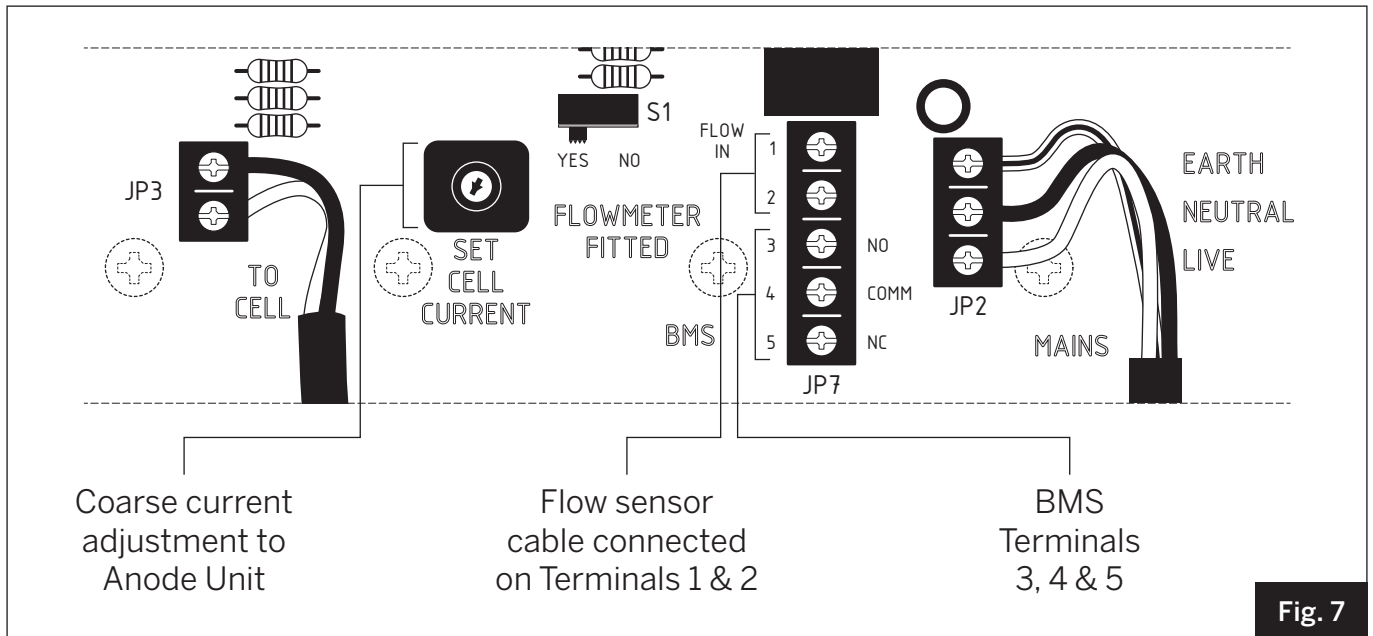

Fig. 7
- **The water meter cable is three metres long and should be connected into the controller terminal chamber as per figures 7 & 10 (dependant on controller).**